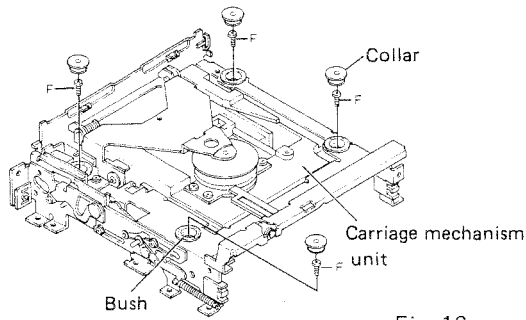

Fig. 16
• **Vibration Proof Rubber (Bush) Removal (Fig. 16)**